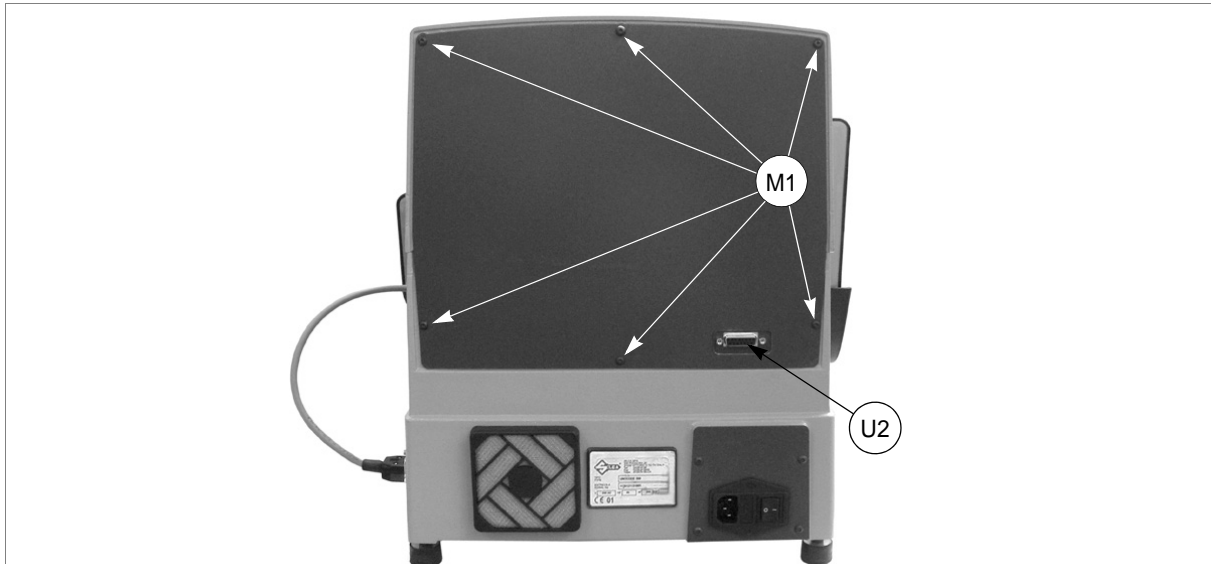

Fig. 52
- 2) remove the vacuum system's connector (U2) (fig. 52).
- 3) unscrew the 6 (M1) screws that secure the back panel (fig. 52) thus removing it.